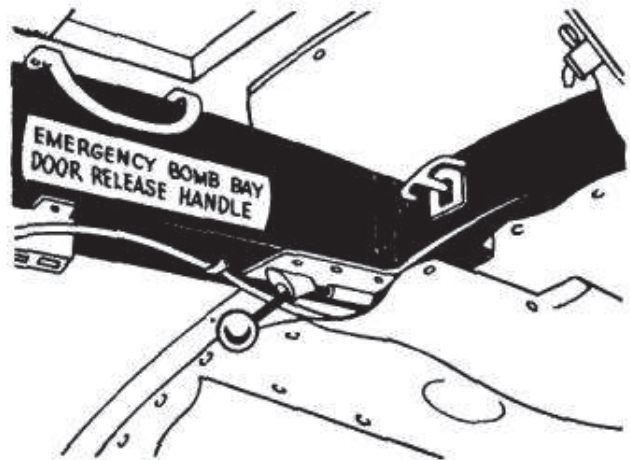

Figure 70 — Emergency Bomb Release Handle
d. The emergency bomb release handle is used to salvo the contents of both bomb bays in an emergency. The release handle is pulled full forward to open the bomb bay doors and release the contents of the racks. (See figure 70.)